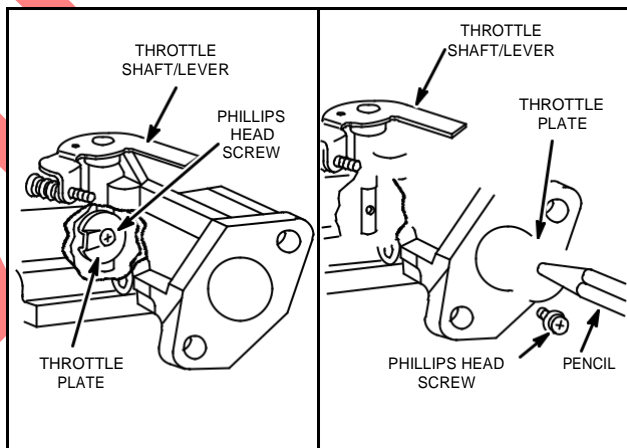

Fig. 178 - REMOVING THROTTLE
2. After removal of throttle plate, throttle shaft and dust seal may be lifted out, Fig. 178.